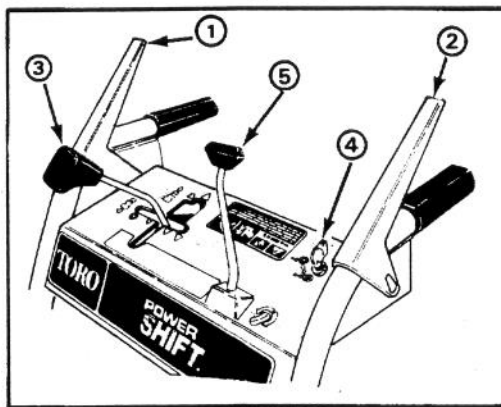

Figure 9.
**Auger/Impeller Control** (Fig. 9) — Control has two positions: ENGAGE and DISENGAGE. To engage auger and impeller, compress lever against right handle grip. To disengage, release lever.
**Traction Drive Control** (Fig. 9) — To engage traction or activate power shift system, lever must be compressed against left handle grip. To stop traction, release lever.
**Speed Shift Control** (Fig. 9) — The control has four speeds forward and two reverse and also controls power shifting of wheels. To select speeds, move shift control to desired position.
**Auger Lock-Up:** (Fig. 9) — When auger/impeller control and traction drive control are both compressed, the traction control locks the auger/impeller control down. Releasing the traction control releases the auger/impeller.
**Discharge Chute Control** (Fig. 9) — Rotate discharge chute control clockwise to move discharge chute to the right and counterclockwise to move chute to the left.
**Ignition Switch** (Fig. 9) — Switch has two positions: ON and OFF. Rotate key to ON position before starting engine. To stop engine, rotate key to OFF.
1. Move speed selector to N — neutral — and throttle to FAST (Fig. 9).
4. Rotate ignition key to ON (Fig. 9).
1. Release traction and auger/impeller drive controls (Fig. 9).